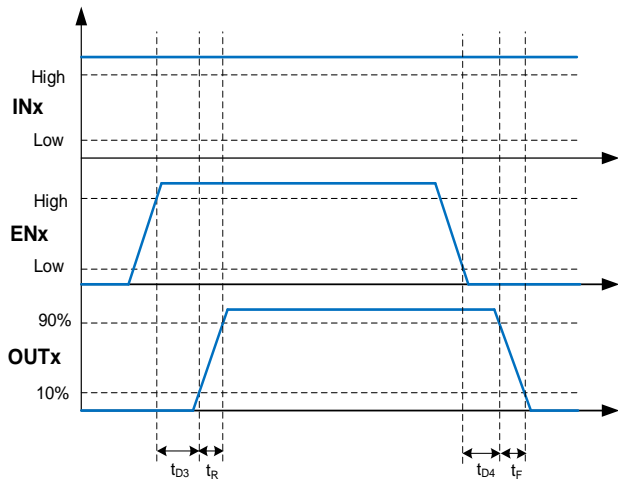
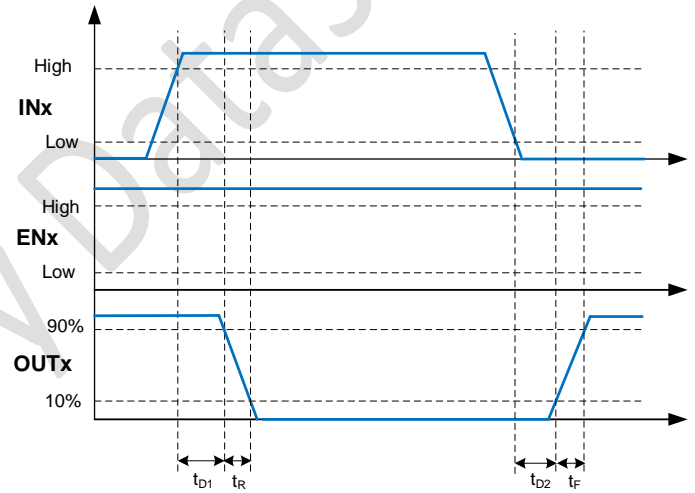

Figure 4. Enable Function for Non-Inverting Input Driver
Figure 7. Inverting Input Driver Operation
1) See timing diagrams in Figure 4 to Figure 7.